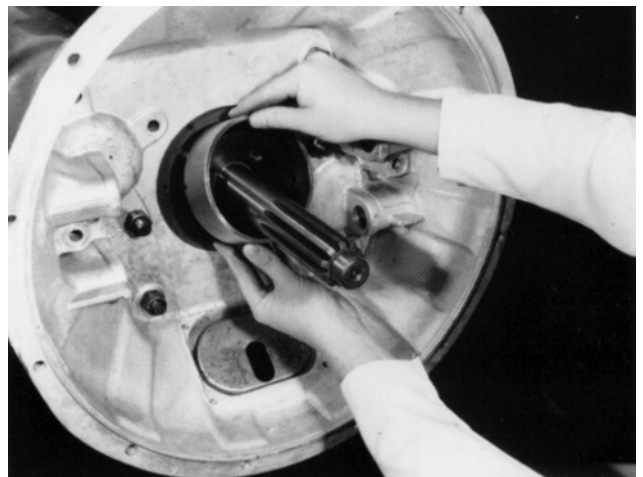

FIGURE 2
4. Assemble collets and sleeve to bearing as shown in Figure 2.